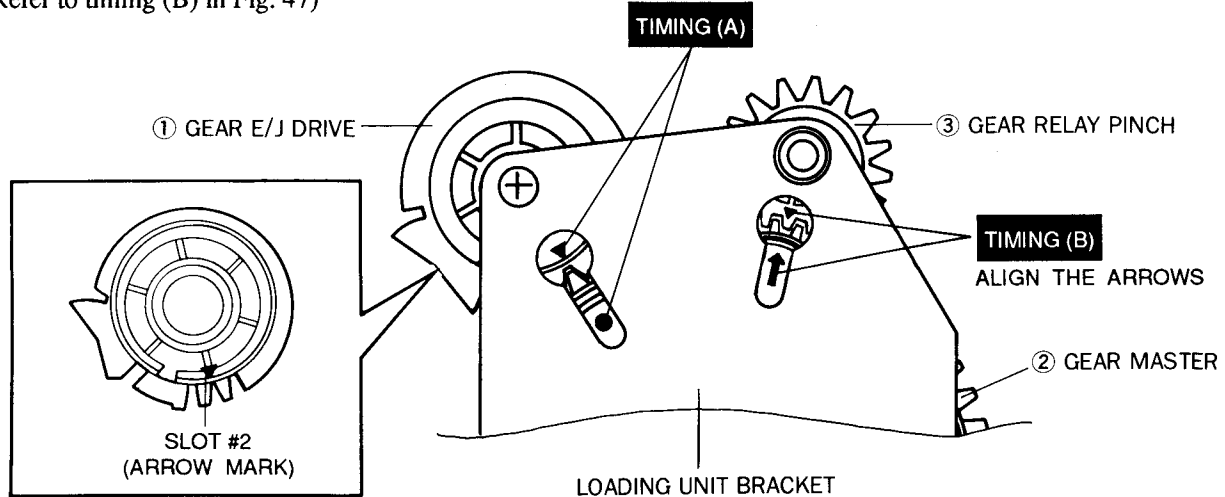

Fig. 47 Timing of Gear Master & Gear Eject Drive
2. Install the loading unit and align the slot #2 of the gear eject drive ① with the hole of the gear master ②. (Refer to timing (A) in Fig. 47)
3. At this time make sure that the arrow marks of the gear relay pinch ③ and the gear master ② are aligned correctly. (Refer to timing (B) in Fig. 47)